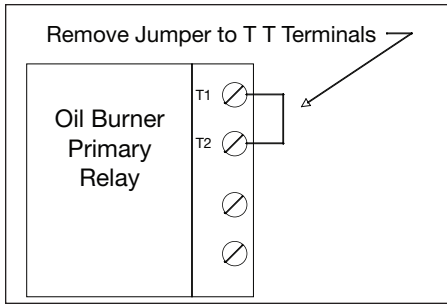

Figure 7
2. Remove the jumper from the TT terminals of the oil burner relay shown in Figure 7.